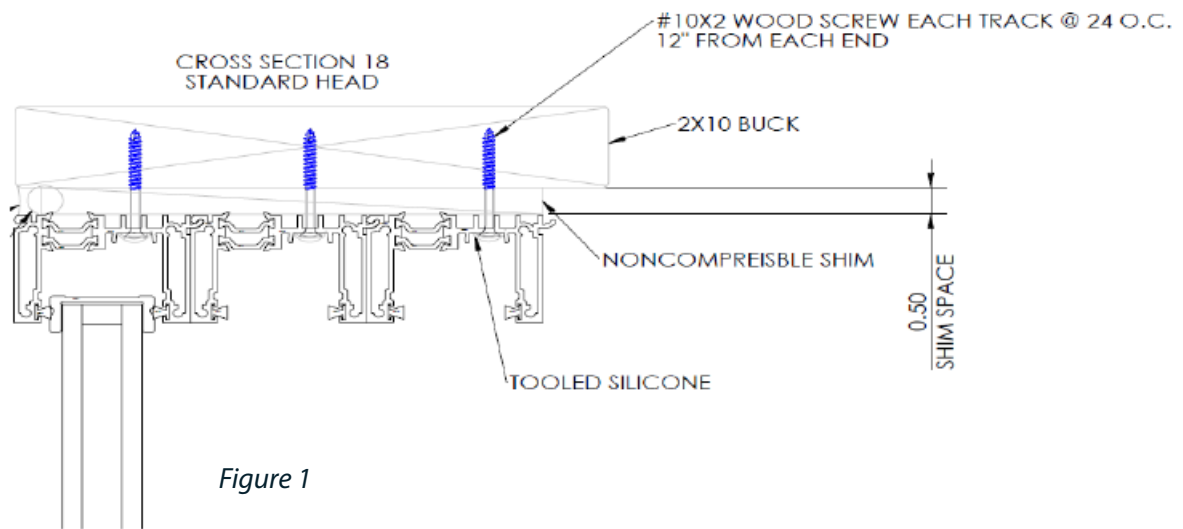

Figure 1
- Frame Head – holes should be drilled 12" from each end and every 24" on center per track. See **Figure 1**.